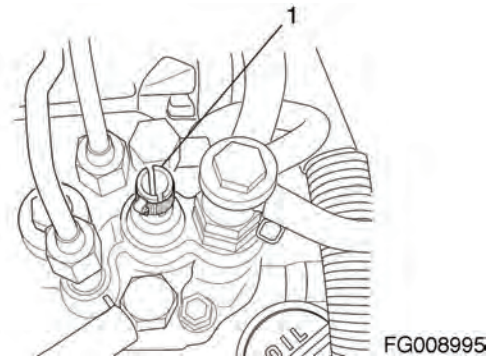
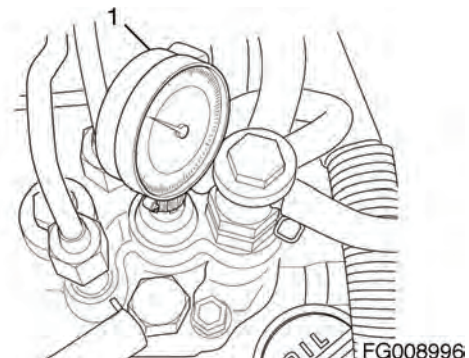

Figure 276
Figure 277
NOTE: Use the M16 adapter used on the MP4 fuel injection pumps and plunger adapter clamp (1, Figure 276).
5. Install a dial indicator (1, Figure 277), Mitutoyo or equivalent, with a 30 mm extension, into the adapter. Secure with the plunger adapter clamp (1, Figure 276) at approximately the mid-point of its travel.